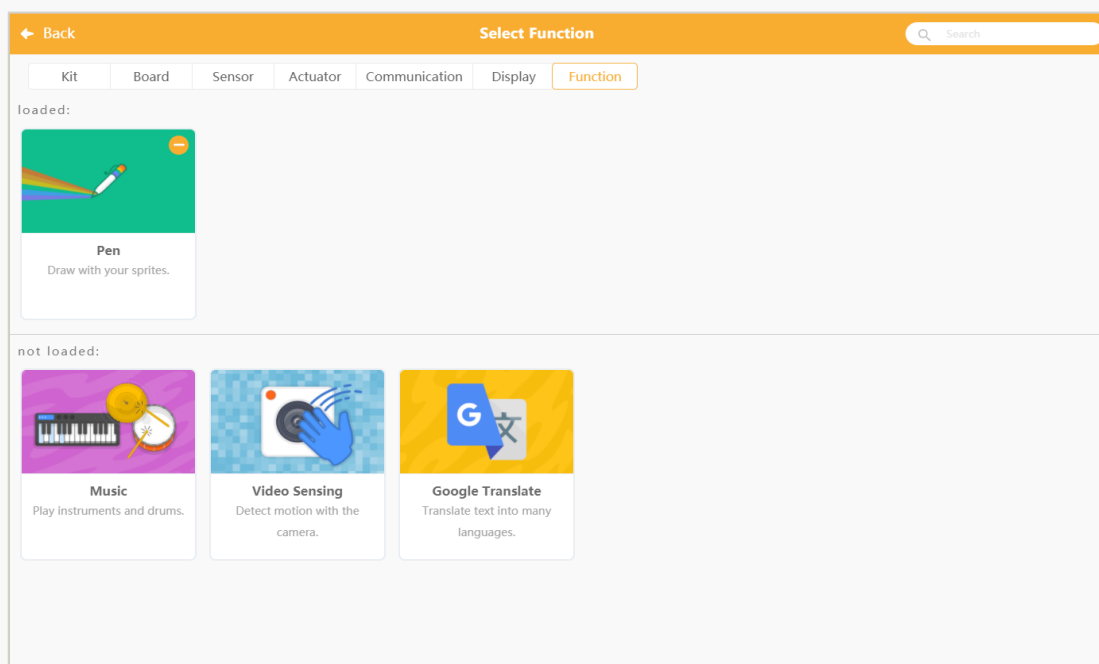

Figure 8-1
1. Click “Expansions”-> “Functions”-> “Pen” to load the pen module. As figure 8-1 shows.